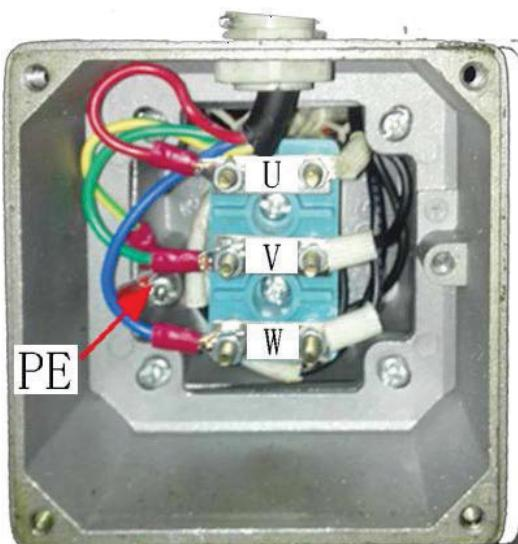

fig.10
- Connection of power line: Connect the 380V three-phase four-wire powerline (cable of 3×2.5MM²+1×1.5 MM²) to the control cabinet interfaces U, V, W and input terminal, and connect the PE grounding wire to the labeled grounding bolt firstly and then to the labeled grounding bolts at the bottom of the two platforms (Fig. 10, 11)